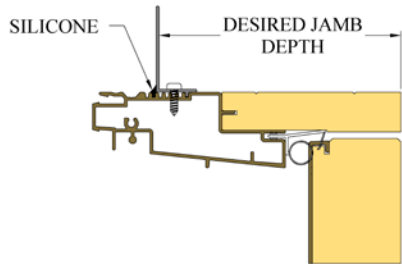

Fig. 9
- F) Apply sealant to the outside face of the nail fin. Tool in sealant to ensure no voids. (Fig. 9)